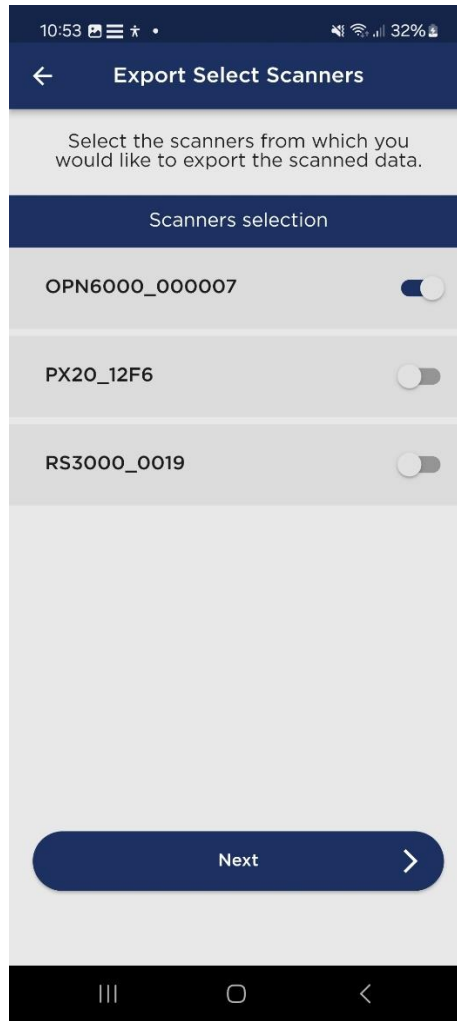

Figure 8-11: The *Select Scanners* page, the first configuration step in the export settings, where you choose which scanners' data to export.
- In the first configuration step, choose which scanners' data you want to include in the export. This is done on the *Select Scanners* page (see Figure 8-11). Toggle the switch next to each scanner to select or deselect it. Once you have made your selections, click *Next* to proceed. **Note:** When exporting from the *Scan Data* page, the currently selected scanner will always be included in the export.